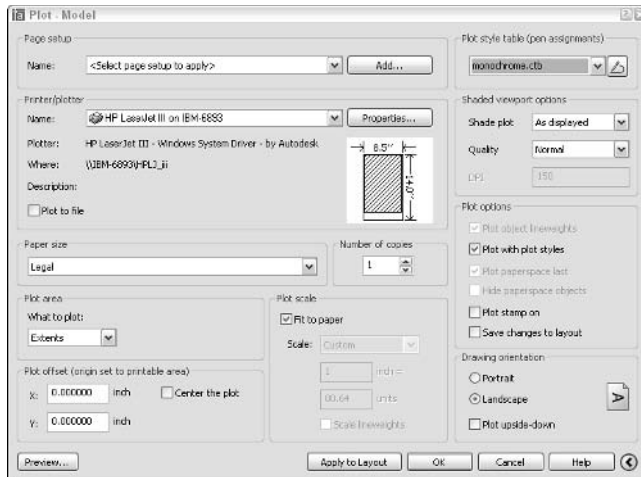

Figure 12-3:
The Plot dialog box reveals additional settings, as shown in Figure 12-3.
- 12. In the Plot Options area, make sure that Plot With Plot Styles is on and Save Changes to Layout is off, as shown in Figure 12-3.**